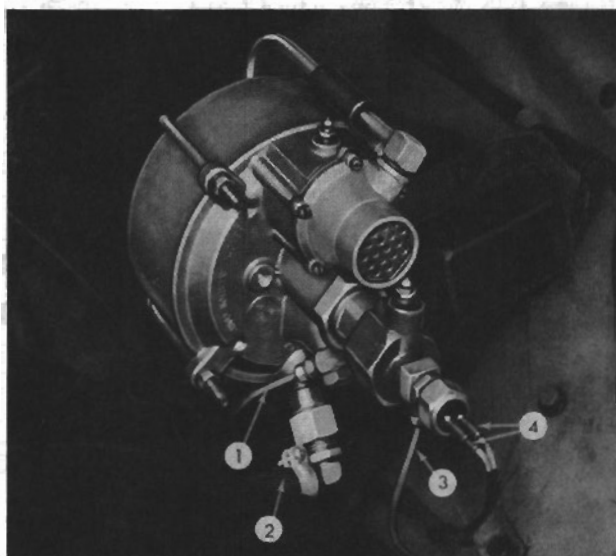

FIG. 29
Disconnect the manifold vacuum supply hose (2, Fig. 29) at the power unit and disconnect the stop light switch wires (4). Disconnect the hydraulic lines from the master cylinder (1) and to the wheel cylinders (3). Remove the power unit-to-bracket mounting bolts and remove the unit from the car.